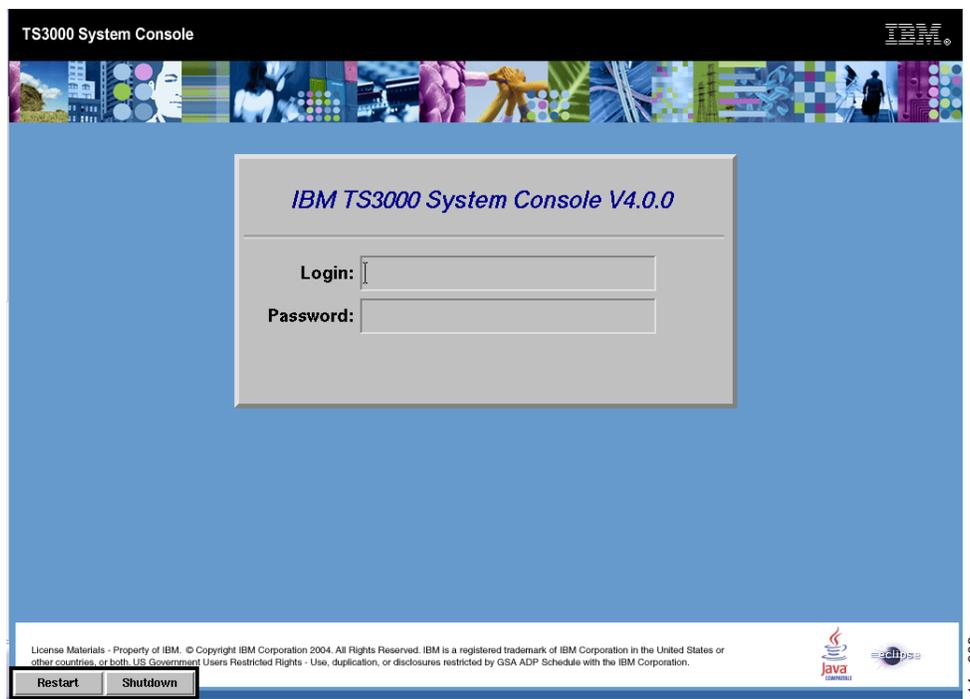

Figure 56. Console Login screen – example. The version number (Vx.x.x) reflects your level of microcode.
The system console is ready for user login when you see the Console Login screen, represented in Figure 56 (microcode level might vary). There are two login options.
For a non-authenticated login, in the Login field (depicted in Figure 56) type **service**. Press the **Tab** key to move your cursor to the Password field and enter the case sensitive password **service**. This type of login
1. At the Console Login screen (Figure 56 on page 45), in the username field enter **Service** (case sensitive). Press the **Tab** key to move your cursor to the Password field, and enter **ibm2serv** (case sensitive).
- Right click anywhere in the Desktop to view the Main Menu as shown in Figure 56 on page 45